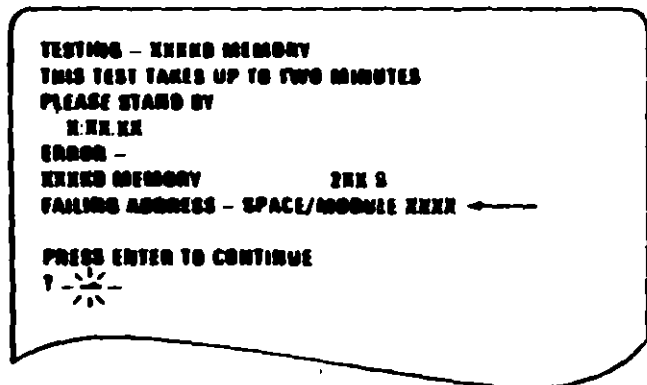

Figure 1. Advanced Diagnostic Error Message
- Note the four-character error code as shown in Figure 1. You will need it for later steps.